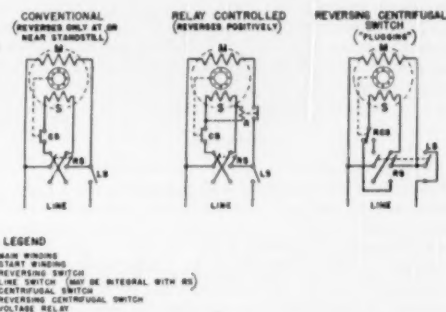
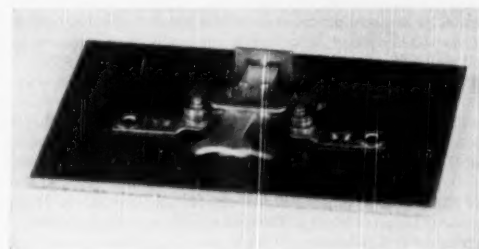

FIG. 24 SINGLE-PHASE INDUCTION-MOTOR REVERSING METHODS
FIG. 25 CENTRIFUGAL REVERSING SWITCH FOR "PLUGGING"
(Reversing centrifugal switch of right-hand diagram same as Fig. 25.)
Reversing Split-Phase or Capacitor-Start Motors. The conventional reversing method is the double-pole double-throw start-winding switch plus a line switch. This is the left-hand diagram in Fig. 24, and requires the motor to slow down to low speed to operate with either the centrifugal mechanism or current relay.
If the motor is to be "plugged" (instantaneously reversed), a proprietary centrifugal switch is available as shown in Fig. 25. The same number of switch blades are required (right-hand diagram, Fig. 24), but full power reversal is possible because of the presence of alternate contacts on the start switch. The
Another use of the induced voltage in the start winding to guarantee reversal directions is shown in the middle diagram, Fig. 24, where a relay directly across the start winding operates series contacts in the main winding (18). This method as with the voltage starting relay also uses the induced voltage to hold the relay in after the centrifugal switch cuts out. Reversing then can be done any time by switching, the motor coasting down to the centrifugal reset speed before power is again applied. However, the direction is always predicted (see reference 17, for further reversing circuits).